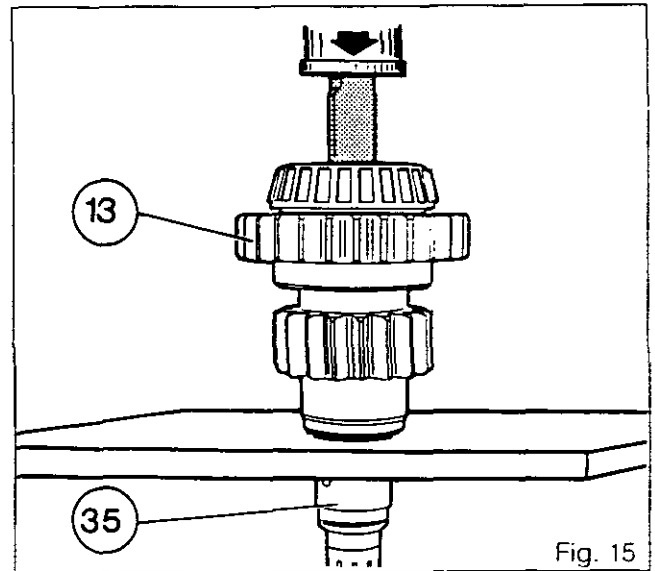

Fig. 15
**Note: A strengthened shaft (35) has been introduced on 3000 tractors. The old needle cage has been replaced with a friction ring (30) having an external diameter of 14 mm.**
104. Separate the pinion (13) from the shaft (35) with the aid of a press and a suitable tool (Fig. 15).
**Note: The friction ring (30) is force-fitted in the shaft (35).**